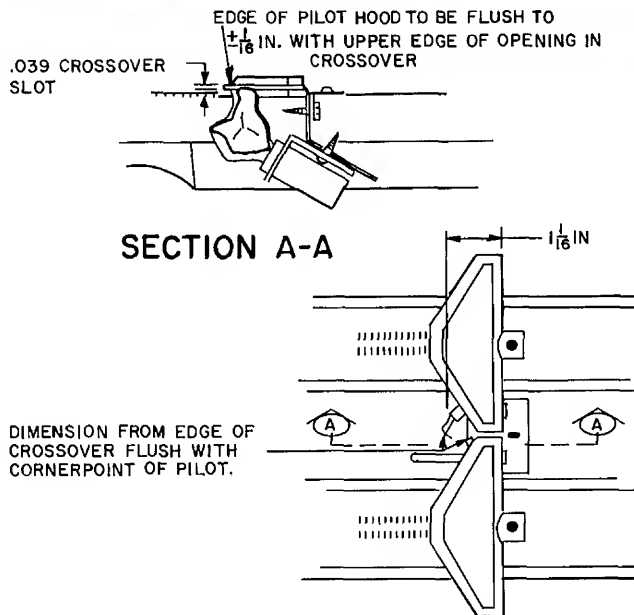

Fig. 9 — Pilot Location (in.)
16. Check the pilot position as shown in Fig. 9 and 10.